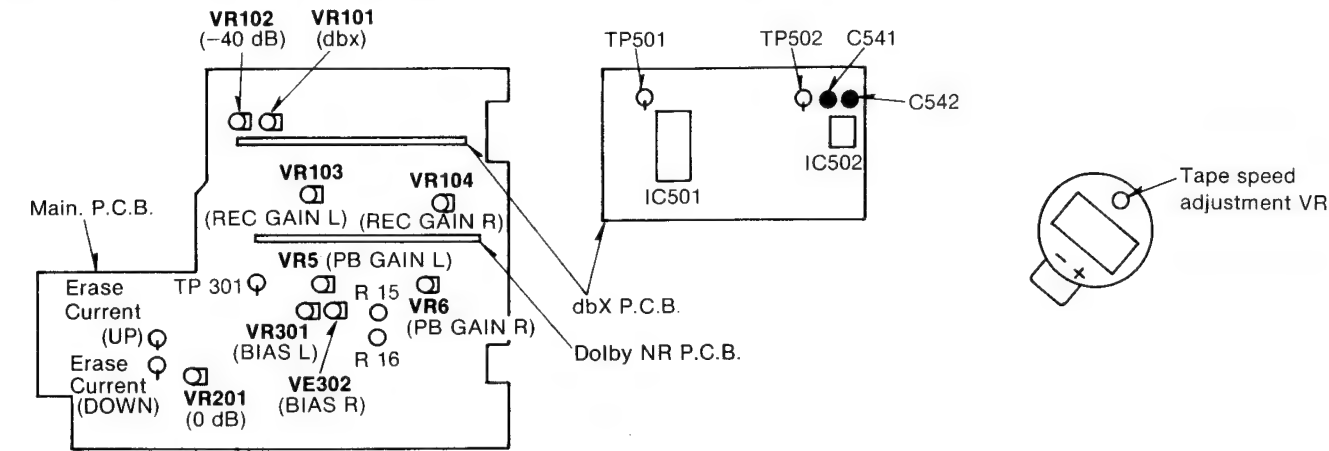

Fig. 1
6. If measured value is not within the standard value, adjust it by using the tape speed adjustment VR shown in fig. 1.
1. If the measured value is not within the standard, adjust VR5 (L-CH) or VR6 (R-CH). (See fig. 1.)
1) Increase bi turning VR; VR302 (R-C (See fig. 1.)
1. Test equipment connection is shown in fig. 2. 2. Playback standard recording level portion on test tape (QZZCFM 315Hz) and, using EVM, measure the output level at LINE OUTs. 3. Make measurements for both channels. <div style="border: 1px solid black; padding: 2px; width: fit-content; margin: 5px auto;"> Standard value: 0.4V<math>\pm</math>0.5 dB (0.02V) </div> Adjustment 1. If the measured value is not within the standard, adjust VR5 (L-CH) or VR6 (R-CH). (See fig. 1.) 2. After adjustment, check "Playback frequency response" again.
1. Test equipment connection is shown in fig. 9. 2. Insert the metal tape. 3. Press the record and pause buttons. 4. Read voltage on EVM and calculate erase current by following formula: $\text{Erase current (A)} = \frac{\text{Voltage across resistor R301}}{1 (\Omega)}$ <div style="border: 1px solid black; padding: 2px; width: fit-content; margin: 5px auto;"> Standard value: 155<math>\pm</math>15 mA (Metal) (155<math>\pm</math>15 mV) </div> 5. If the measured value is not within the standard value adjust it by following the adjustment instructions. Adjustment 1. Short points (A) and (B) on the main circuit board. (See fig. 1) 2. Measure the erase current. 3. If the erase current is less than 140 mA, open the DOWN point (B). 4. If the erase current is more than 170 mA, open the UP point (A).	 <p style="text-align: center;">Fig. 9</p>
Note: Before measuring and adjusting, the overall frequency response make sure of the playback frequency response (For the method of measurement, please refer to the playback frequency response). (Recording equalizer is fixed) 1. Make connections as shown in fig. 11. 2. Insert the normal reference blank test tape (QZZCRA). 3. Supply a 1kHz signal from the AF oscillator through ATT to LINE IN. 4. Adjust ATT so that input level is -20dB below standard recording level (standard recording level = 0 VU). 5. Adjust the AF oscillator frequency to 1kHz, 50Hz, 100Hz, 200Hz, 500Hz, 4kHz, 8kHz, 10kHz and 12.5kHz signals, and record these signals on the test tape. 6. Playback the signals recorded in step 6, and check if the frequency response curve is within the limits shown in the overall frequency response chart for normal tapes (fig. 10). (If the curve is within the charted specifications, proceed to steps 7, 8 and 9.) If the curve is not within the charted specifications, adjust as follows; Adjustment (A): When the curve exceeds the overall specified frequency response chart (fig. 10) as shown in fig. 12. 1) Increase bias current by turning VR301 (L-CH) and VR302 (R-CH). (See fig. 1.) 2) Repeat steps 5 and 6 for confirmation (Proceed to steps 7, 8 and 9 if the curve is now within the charted specifications as shown fig. 10.) 3) If the curve still exceeds the specifications (fig. 10), increase bias current further and repeat steps 5 and 6.	 <p style="text-align: center;">Fig. 10</p>  <p style="text-align: center;">Fig. 11</p>  <p style="text-align: center;">Fig. 12</p>  <p style="text-align: center;">Fig. 13</p> Adjustment (B): When the curve falls below the overall specified frequency response chart (fig. 10) as shown in fig. 13. 1) Reduce bias current by turning VR301 (L-CH) and VR302 (R-CH). 2) Repeat steps 5 and 6 for confirmation (Proceed to steps 7, 8 and 9 if the curve is now within the charted specifications as shown fig. 10.) 3) If the curve still falls below the charted specifications (fig. 10), reduce bias current further and repeat steps 5 and 6.